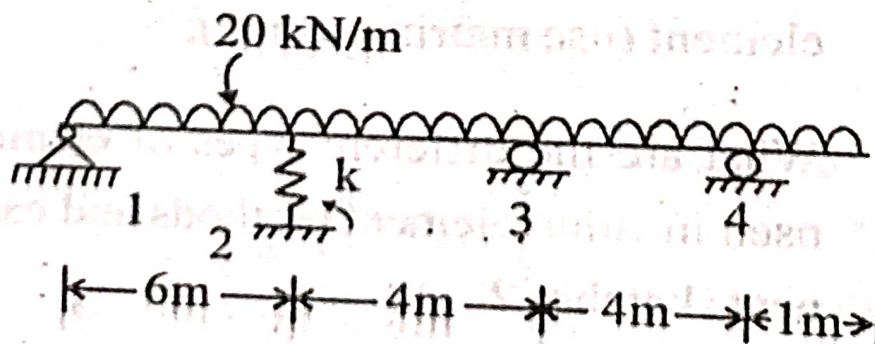

Fig. 5.
- (b) Write step by step procedure of stiffness matrix in the analysis of continuous prismatic beam ABC fixed at A and simply supported at B and C with UDL load (W) over the entire span. Assume support B is at mid span and C at end.
8. Analyze the beam in Fig. 5. by flexibility method. Assume EI is same for all members. Assume stiffness of spring k at support 2 = 10000 KN/m. $EI = 20000$ KN/m².